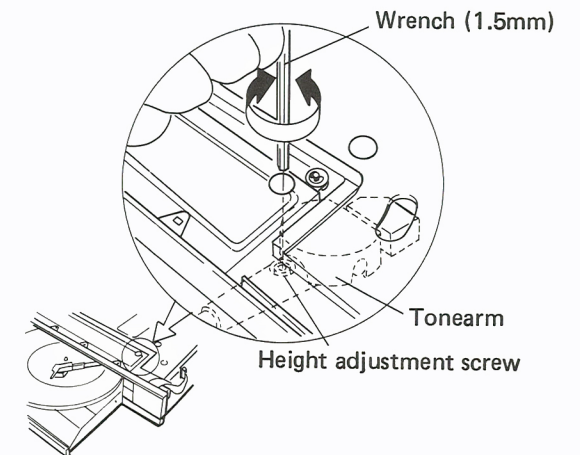

Fig. 9.6 Stylus Height Adjustment
3. While holding the tonearm in the left hand, adjust the adjustment screw with a wrench (1.5mm) passed through the adjustment hole as shown in Fig. 9.6.